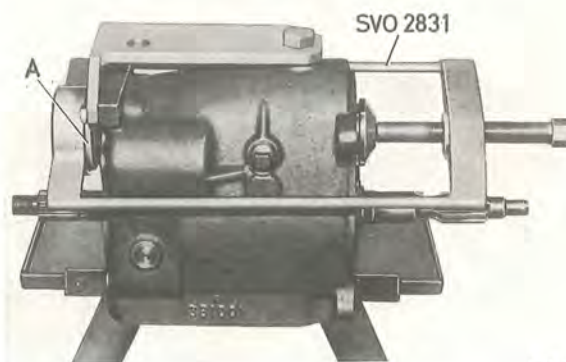

Fig. 4-30. Fitting intermediate shaft bearing
6. Turn the gearbox upside down. Press the insert drift into press tool SVO 2831. Then press on the bearings for the intermediate shaft with the press tool, see Fig. 4-30. Fit the clutch casing with a new gasket.